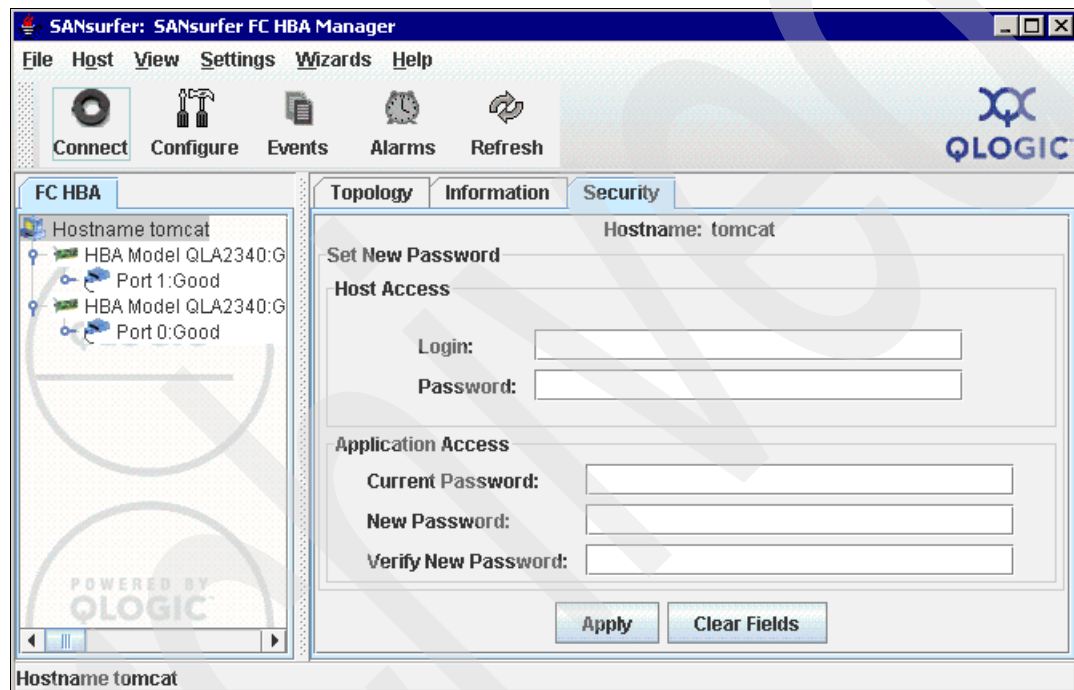

Figure 7-80 Qlogic SANsurfer Security tab
- Application access specifies the password for changing settings on the HBAs (for firmware or NVSRAM download or BIOS settings), as shown in Figure 7-80.